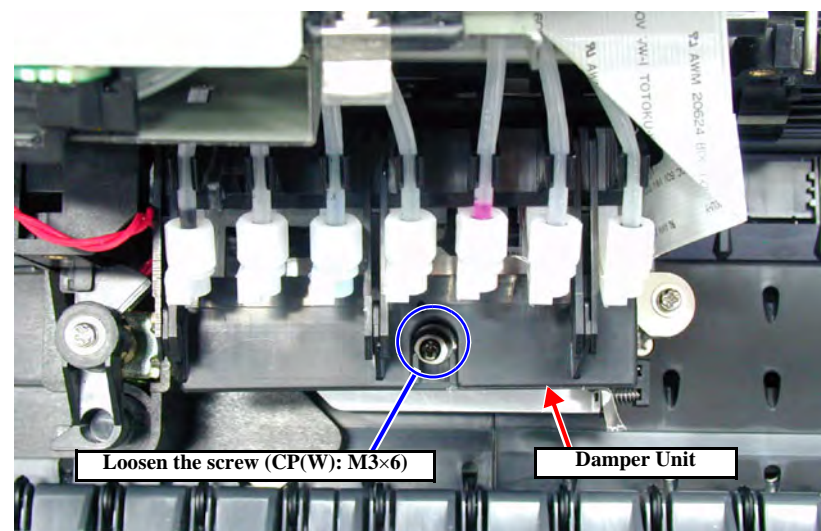

Figure 4-25. Damper Holder Loosening
3. Loosen the one screw (CP(W): M3×6) securing the front end of the damper holder and separate the Damper Unit from the print head. (See Figure 4-25)